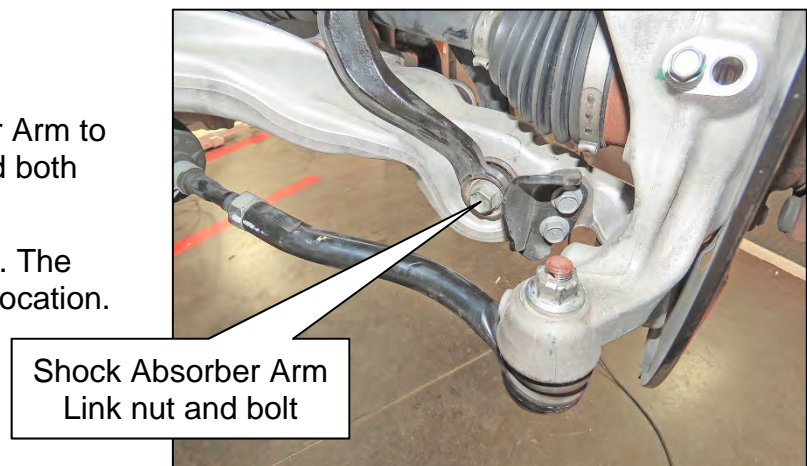

Figure 32
- AWD shown in Figure 32. The 2WD bolt is in the same location.